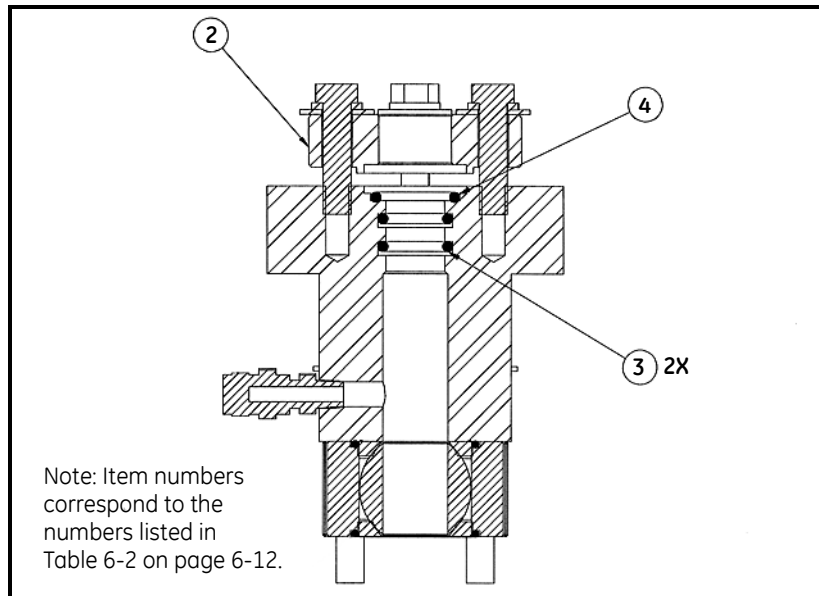
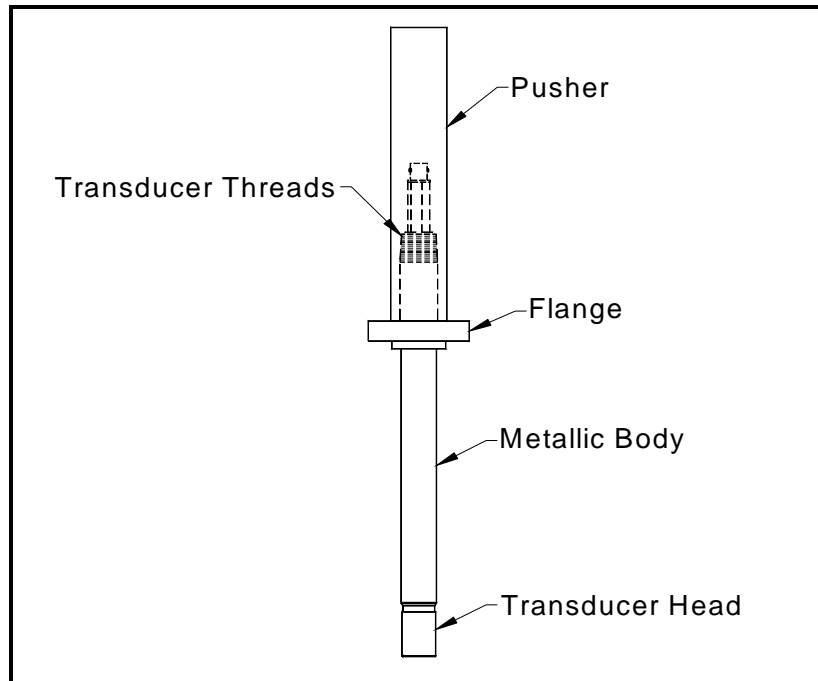

Figure 6-13: Holder, Cross-Section - O-Ring Placement
Figure 6-14: T11 Transducer and Pusher
1. Grease and install three new o-rings within the T11 holder (see Figure 6-13 below and Table 6-2 on page 6-12).
3. Apply anti-seize lubricant to the new T11 transducer NPT threads, then assemble a T11 pusher onto the new transducer (refer to Figure 6-14 on page 6-14).
4. Lubricate the shaft of the transducer with o-ring-safe spray lubricant. Insert the transducer into the meter body holder, carefully pressing the transducer head past the radial o-rings (see Figure 6-13 above and Figure 6-14 on page 6-14).